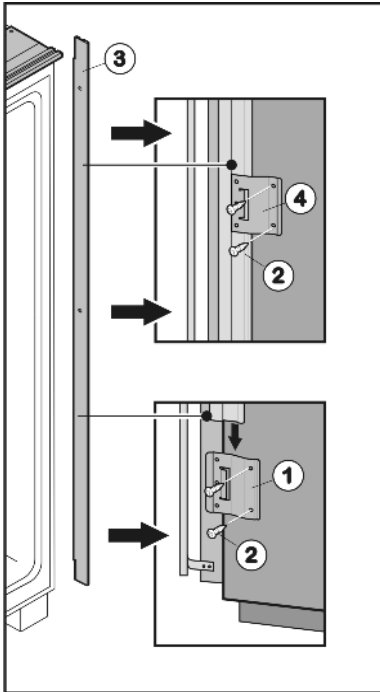
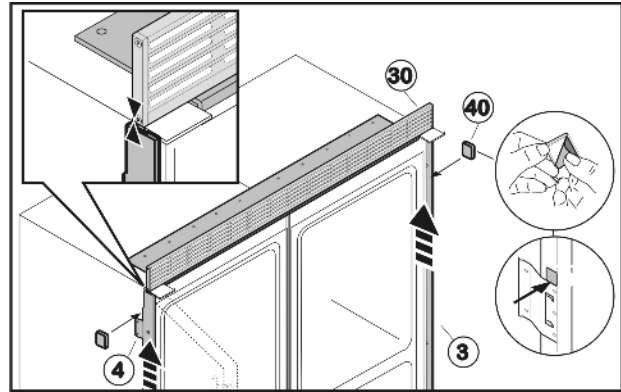

Fig. 57
Fig. 67
- Unscrew retaining plates Fig. 57 (1,4) and remove rail Fig. 57 (3).
- Fit retaining plate Fig. 57 (1) to the lower part of the hinge side by inserting two screws Fig. 57 (2) into the pre-cut holes.
- Slide rail Fig. 57 (3) into the retaining plate Fig. 57 (1) from above.
- Push second retaining plate Fig. 57 (4) onto the rail from above and screw onto the center of the side wall.
- Push third retaining plate Fig. 57 (4) onto the rail from above and screw onto the top part of the side wall.
- Remove adhesive tape from the side installation strip Fig. 67 (3).
- Push installation strip Fig. 67 (3) upwards until it is touching the ventilation grille Fig. 67 (30).
- Glue the adhesive plates Fig. 67 (40) above the retaining plate Fig. 57 (1) and the retaining plates Fig. 67 (4) respectively to the installation strip Fig. 67 (3) such that it cannot slide downwards.